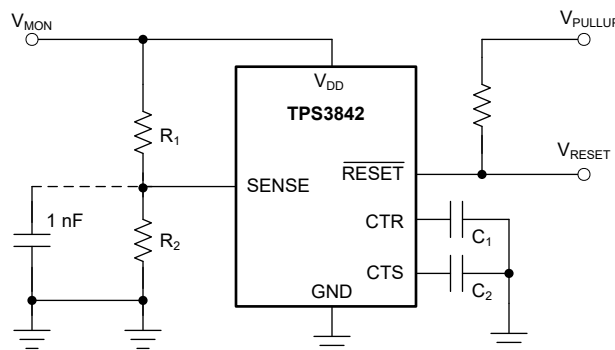

Figure 8-3. Using the TPS3842A011DRLR to Monitor a User-Defined Threshold Voltage
Figure 8-3 illustrates an example of how to adjust the voltage threshold with external resistor dividers. The resistors can be calculated depending on the desired voltage threshold and device part number. TI recommends using the 700mV threshold option when using an external resistor divider. The variant bypasses the internal resistor ladder for higher accuracy when using external resistors.
For example, consider a 12V rail, V_{MON}, being monitored for undervoltage (UV) using of the TPS3842A011DRLR variant, as shown in Figure 8-3. The monitored UV threshold, denoted as V_{MON-}, is the desired voltage where the device asserts the reset. For this example V_{MON-} = 5.8V. To assert an undervoltage reset the voltage at the sense pin, V_{SENSE}, needs to be equal to the input threshold negative, V_{ITN}. For this example variant V_{SENSE} = V_{ITN} = 0.7V. Using R₁ and R₂ the correlation between V_{MON-} and V_{SENSE} can be seen in Equation 1. Assuming R₂ = 100kΩ, and R₁ can be calculated as R₁ = 16kΩ.